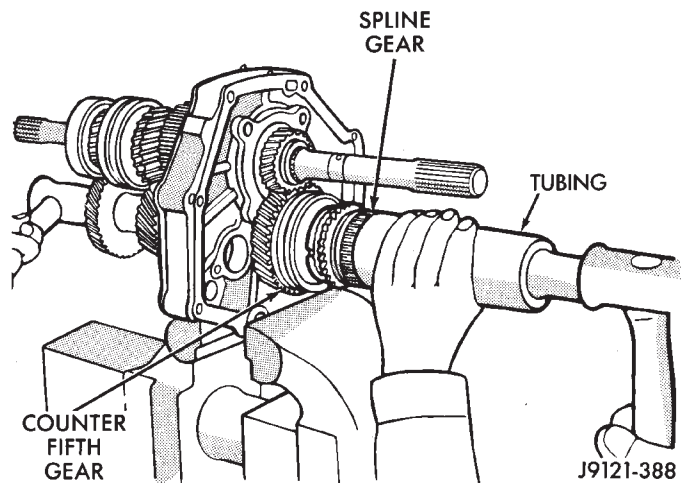

Fig. 71 Installing Fifth Gear—AX 5
(27) Install remaining synchronizer ring and spline fifth gear (Fig. 71). Use length of pipe to tap gear into place.